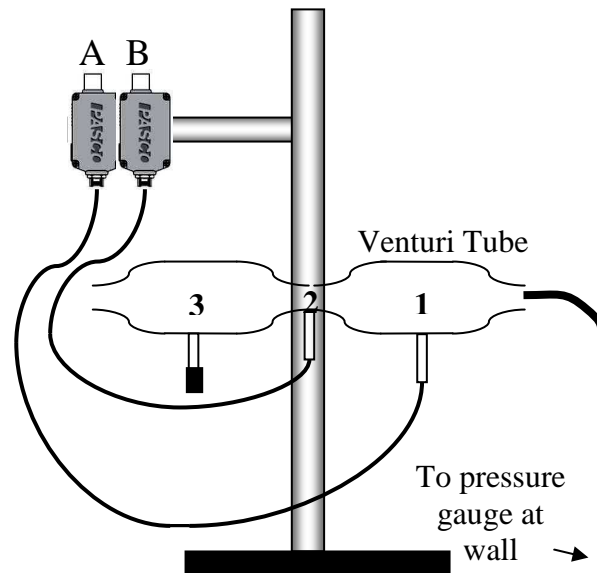

Figure 7: Apparatus for Pressure and Speed
In this investigation, you will be using Bernoulli's equation to predict the behavior of air as it passes through a Venturi tube as shown in Figure 7. A Venturi tube is a device that can be used to measure the speed of fluid flow as discussed in the introduction.
The two points 1 and 2 in Equation (12) refer to the points 1 and 2 in Figure 7. For example, the gas will have pressure  $P_1$  and air flow  $v_1$  at the wide part of the Venturi tube.
1. Open the experimental file **L13.3-1. Pressure and Speed**. Set up the apparatus as shown in Figure 7. Click on Setup to make sure the pressure sensors are connected to the correct inputs on the interface as labeled in the figure (i.e., sensor A goes to input 1 on the Venturi tube and channel A of the PASCO interface.)
**Question 3-1:** Describe what happens to the two pressures for the two different air flow rates. Is this what you expected from Prediction 3-1? Which pressure (point 1 or 2) is the highest? What happens to the difference  $P_1 - P_2$  as you increased the air flow? Explain why Eq. (12) seems to be qualitatively true.